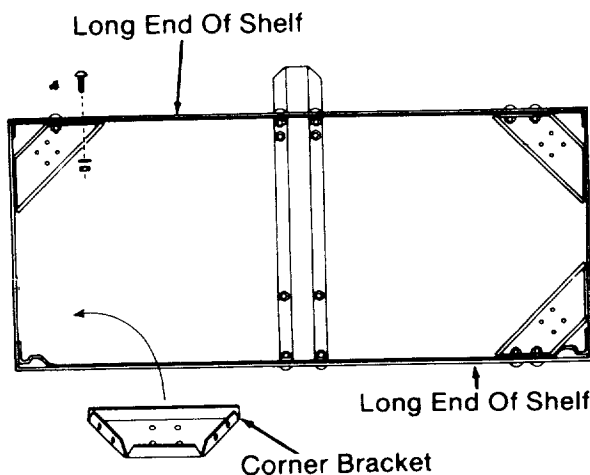

Fig 17
7. Put a *corner bracket* in each corner of the *shelf*. (Figure 17)
8. Put two truss head bolts through the *shelf* and each *corner bracket* to hold the brackets in place. Only put bolts through holes in the long edges of the *shelf*, not the narrow ends, as shown. (Figure 17)